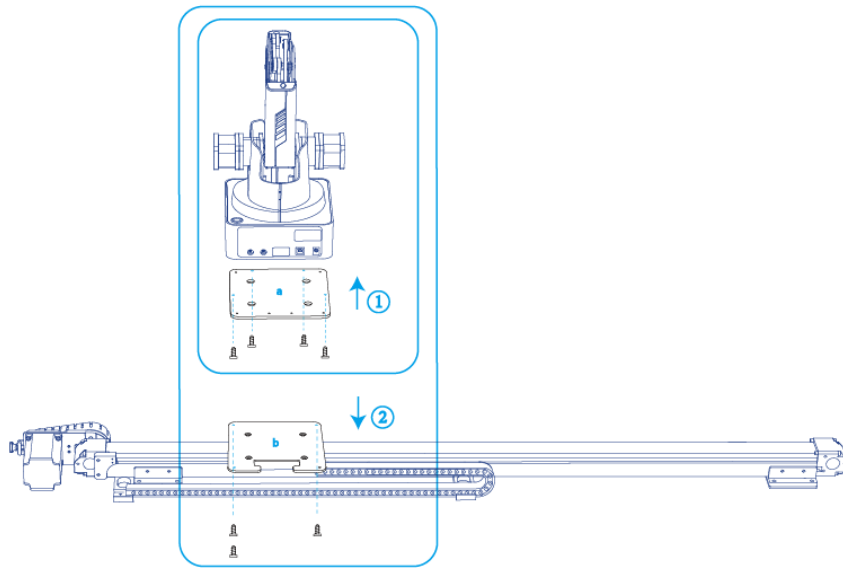

Figure 5.190 Fixed position with screws
Step 2 Fix the plate **a** (with Dobot Magician) on the plate **b** with three M3*8 hexagon socket head cap screws. Please make the back of the base of Dobot Magician towards the rabbet on the plate **b**, as shown in Figure 5.190.